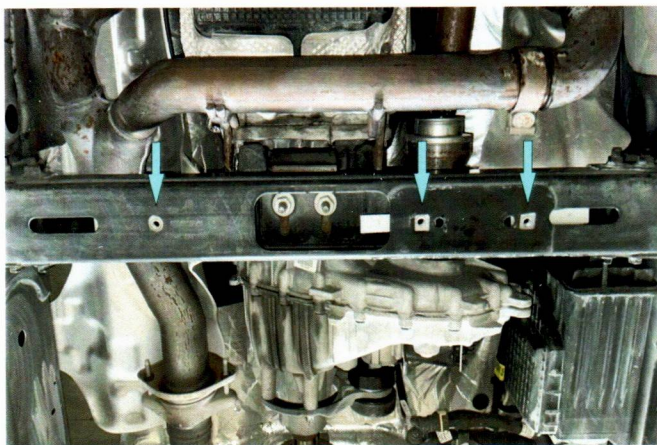

Fig. 3
3. Remove factory nuts and install insert nuts M10 (item A) as shown in fig.3.